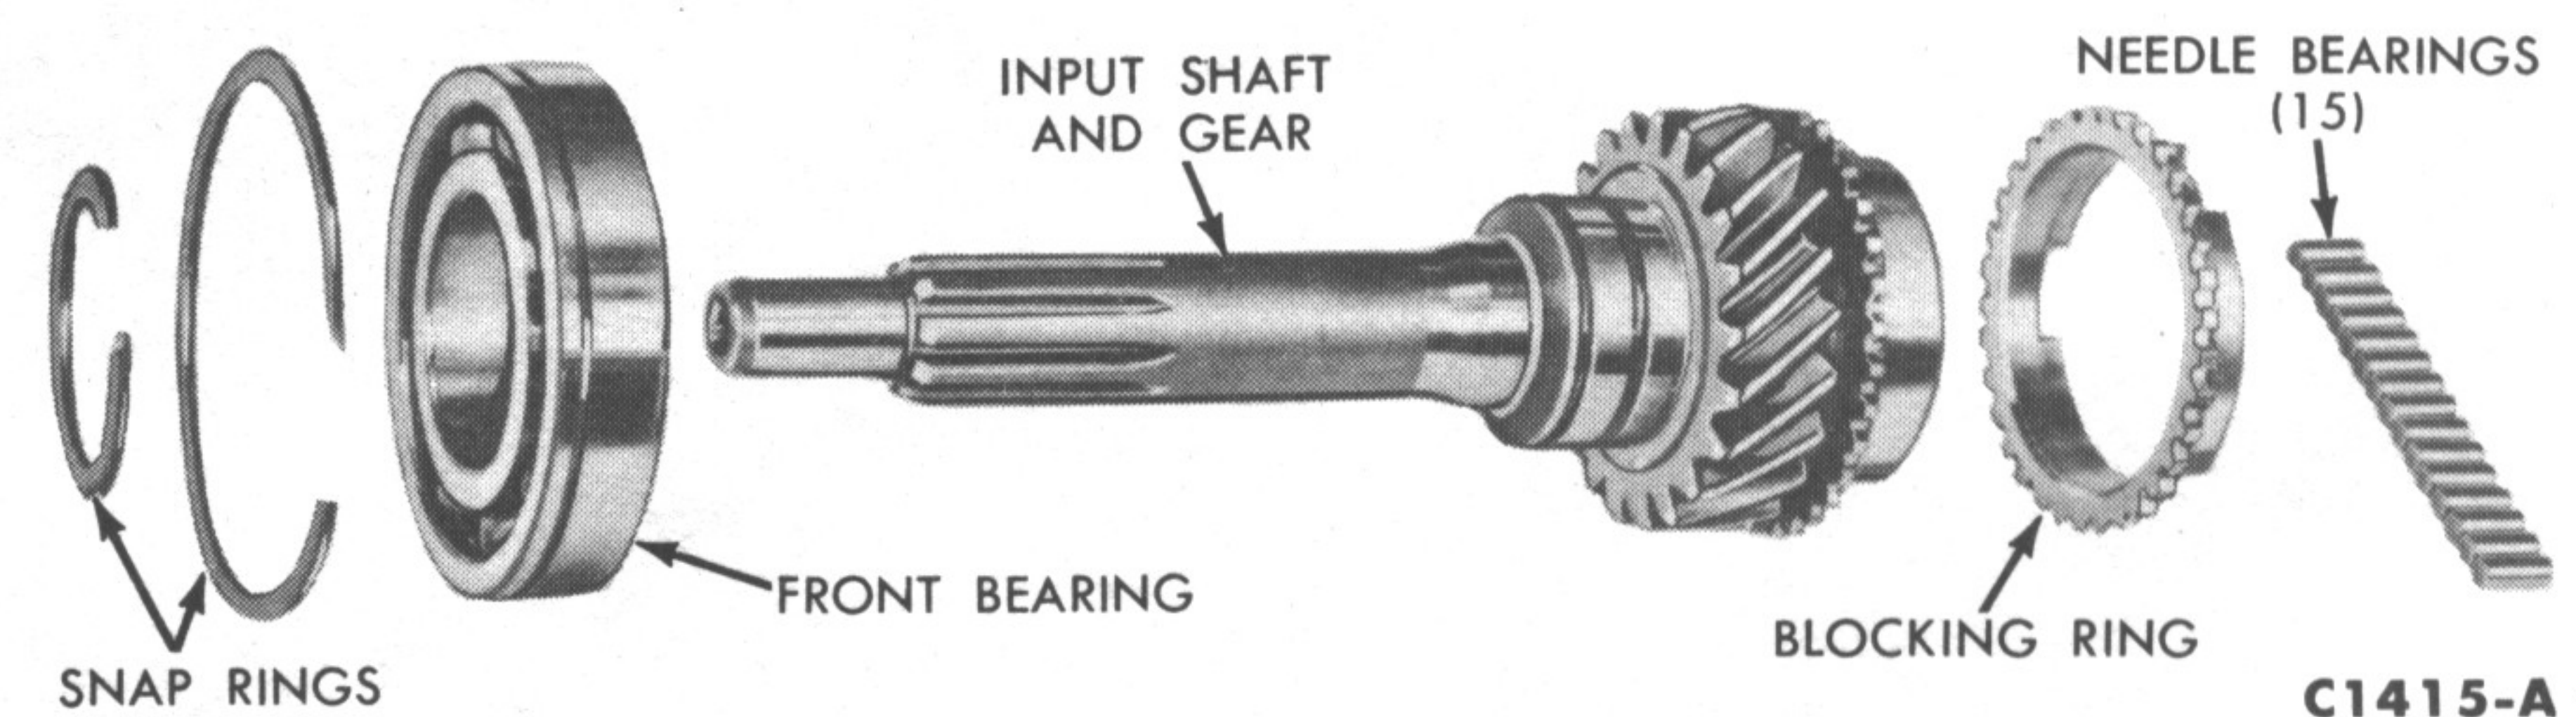
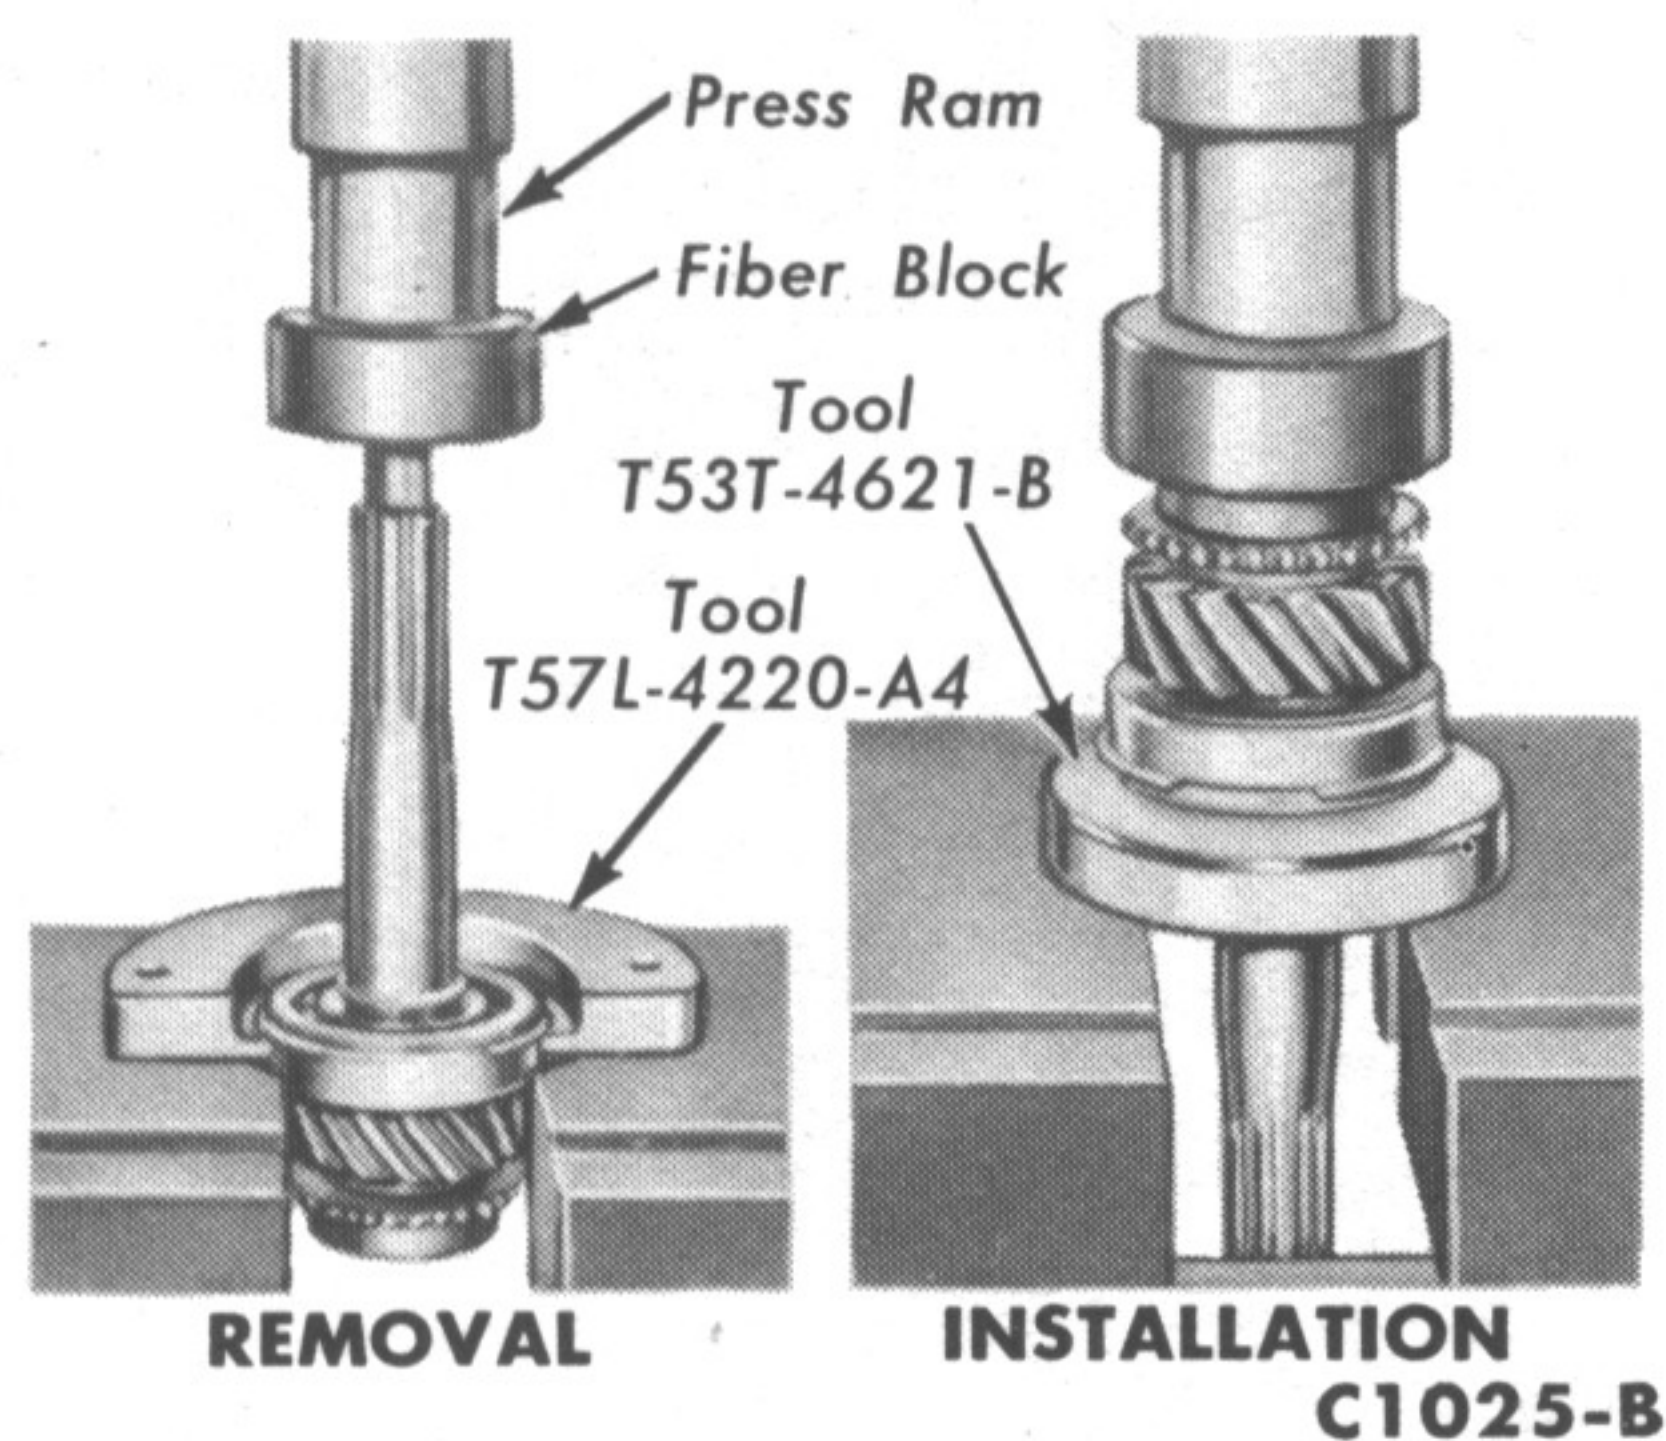

FIG. 51—Input Shaft Gear Disassembled
FIG. 52—Replacing Input Shaft Gear Bearing
30. If the input shaft and gear bearing (Fig. 51) is to be replaced, remove and install it with the tools shown in Fig. 52.
10. Replace the input shaft and gear (Fig. 51) if the splines are damaged or if the teeth are chipped, worn or broken. If the needle bearing surface in the bore of the gear is worn or rough, or if the cone surface is damaged, replace the gear and rollers.
10. Coat the bore of the input shaft and gear with a thick coat of grease. Install the 15 needle bearings (Fig. 51) in the bore.